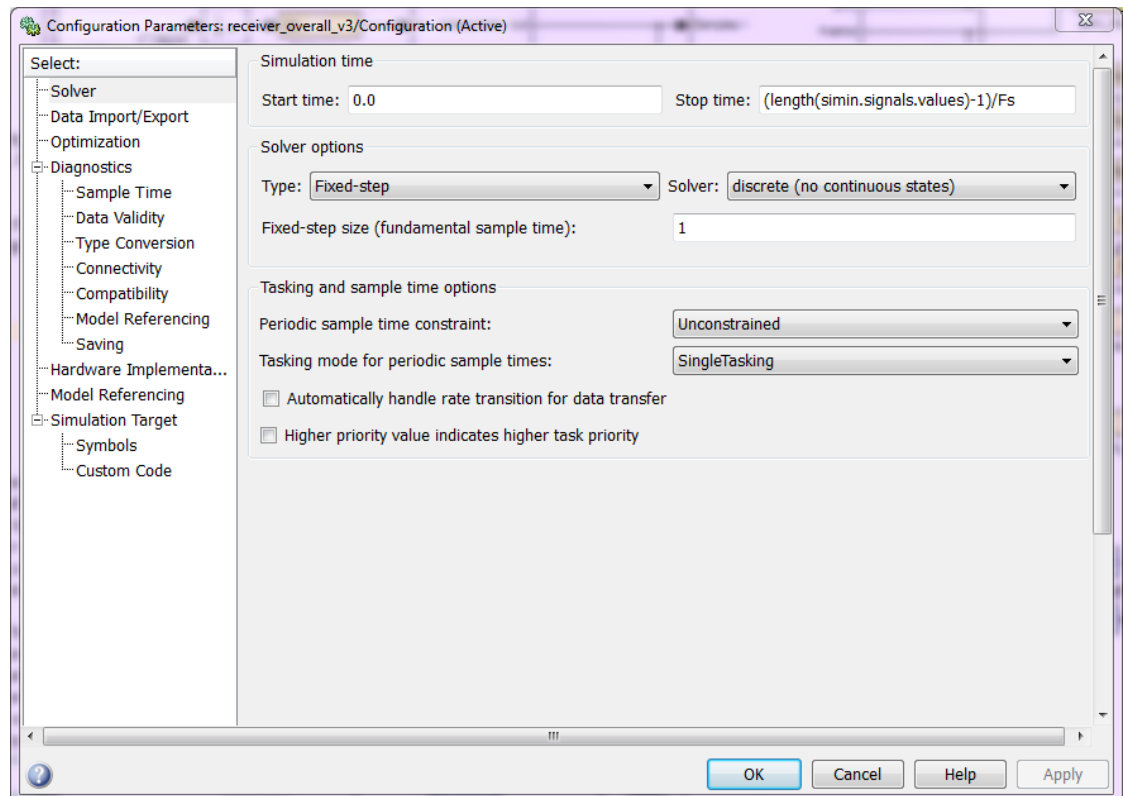

Figure 2: Configuration parameters – Solver
- I recommend to use an In-Port for loading data from the workspace into the model while simulation. Furthermore, I recommend to use an fixed-step and discrete solver. That will simplify the debugging with Wave Scopes. The appropriate simulation's configuration parameters are shown in Figure 2 and 3.